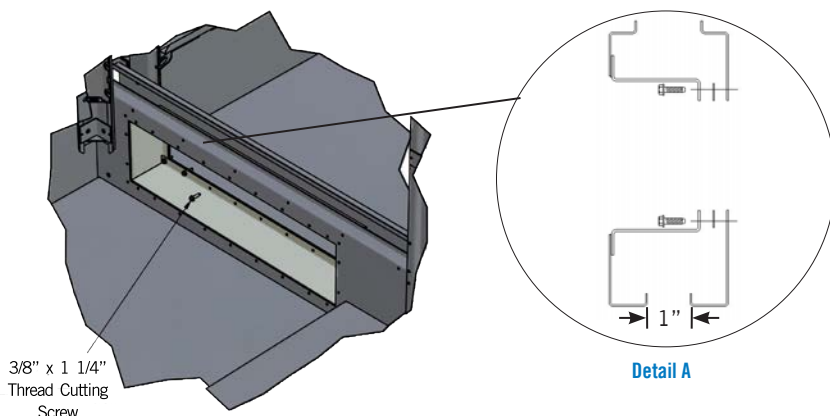
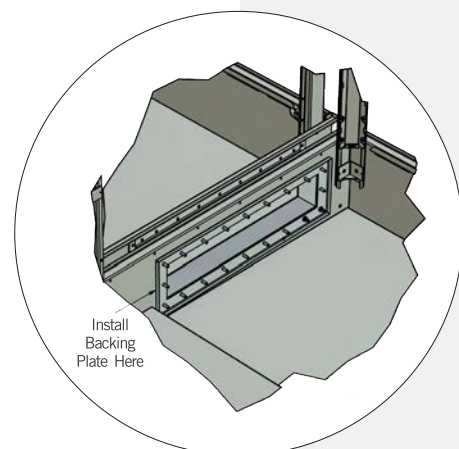

Figure 9. Thread Cutting Screw Pattern for Flume Box
Figure 10. Backing Plate Installation
6. As illustrated in **Figure 9**, insert 3/8" x 1 1/4" thread cutting screws in each hole from the flume box into the basin wall and tighten. For basins with TriArmor® Corrosion Protection System and stainless steel basins, bolt strips are provided in lieu of individual thread cutting screws. For TriArmor basins only, a backing plate is provided and must be installed inside of Cell #2, as seen in **Figure 10**. Secure using the provided hardware.